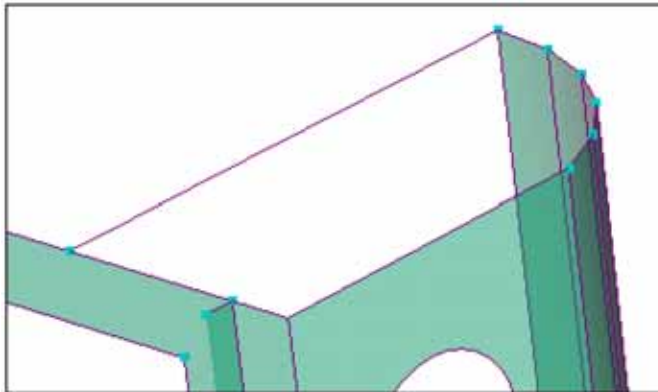

Figure 45: Top region center curve
- The new curve should look like Figure 45.